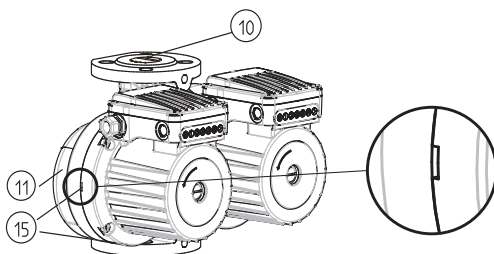

Fig.3
- GHND (basic, auto), GHNMD (basic, auto) pumps have double hydraulic casing (Fig.3 – POS.11), where a tiltable flap is built-in (Fig.3 – POS.10), tilting automatically, depending on the flow direction of one or another pump.